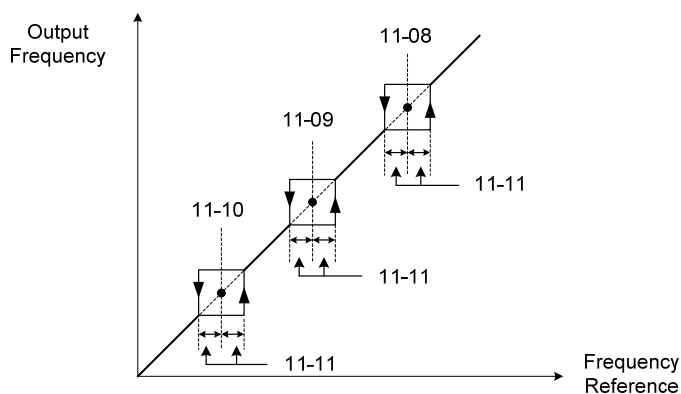

Figure 4.3.86 Jump frequency operation
- . The relationship of the output frequency and the jump frequency is shown in Figure 4.3.86.